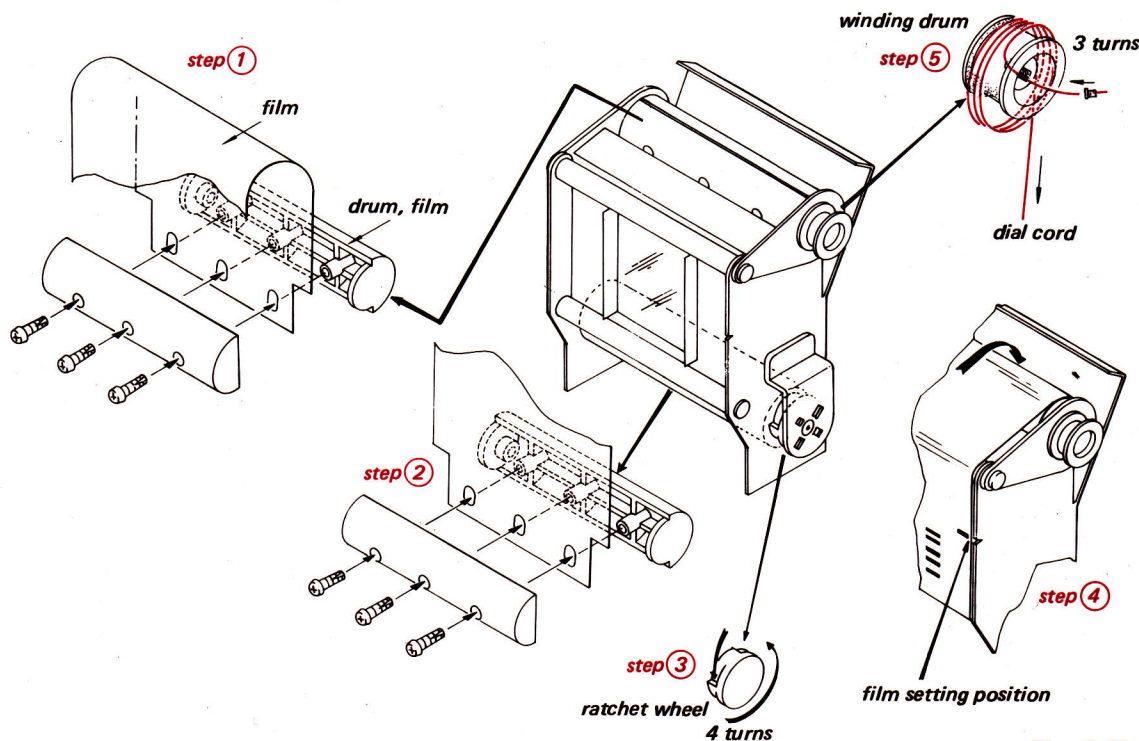

Fig. 2-42
1. Set the top of dial film to the film-drum as shown in Fig. 2-42 (step ①).
2. Set the other end of dial film in the same way (step ②).
3. Turn the ratchet-wheel four turns in the direction shown by the arrow (step ③).
5. String the dial cord as shown in Fig. 2-42 (step ⑤).